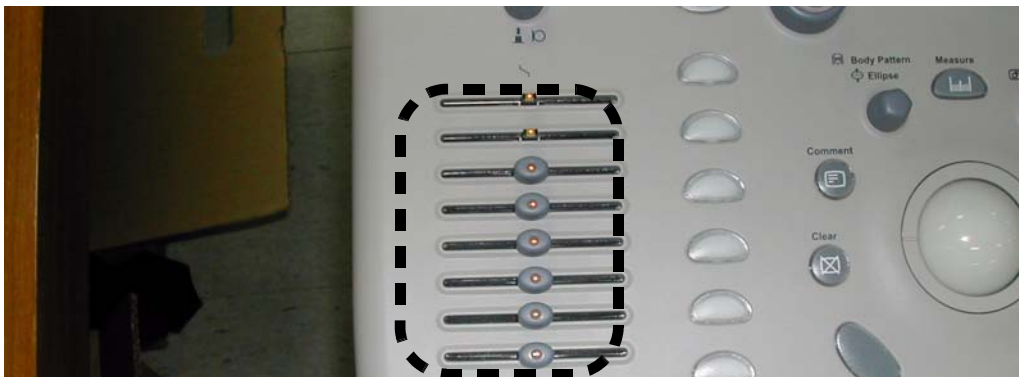

Figure 8-27 Removing TGC Knobs
- 1.) Remove eight (8) TGC knobs from the upper side of the Keyboard. Refer to Figure 8-27.